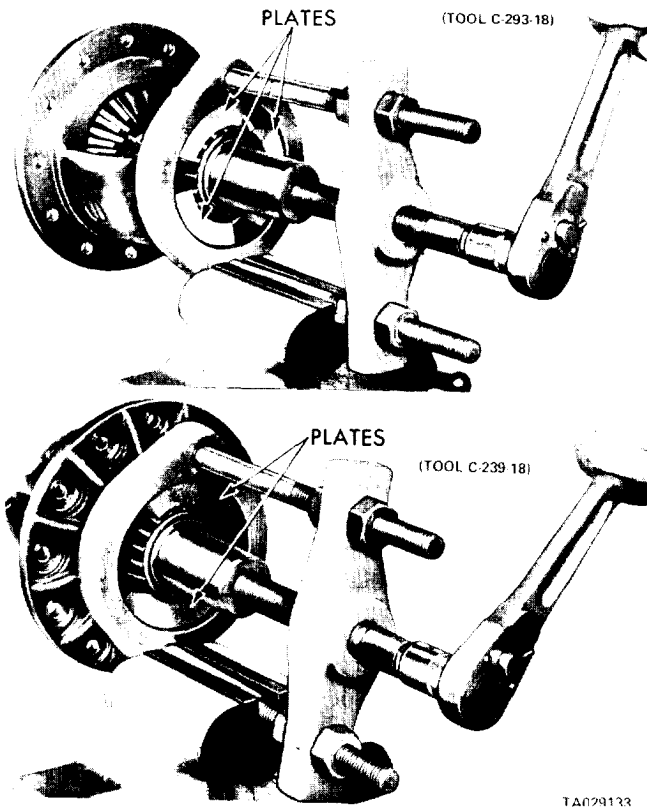

Figure 20-7. Removing Differential Bearings.
(20) Remove the differential pinion mate shaft, the differential pinion mates, and the thrust washers (one in back of each gear). If you found excessive drive gear run out, determine the cause.
(21) If you found no uneven surfaces or other causes preventing good drive gear alignment, check the runout of the drive gear mounting flange surface.
(22) Install the differential assembly (with drive gear removed) in the carrier housing. Attach a dial indicator and check the runout of the drive gear mounting face of the differential case flange.
(23) If the total indicator reading taken while rotating the differential case indicates excessive runout, replace the differential bearing cones or correct the condition by machining a light cut from the drive gear mounting surfaces on the case flange.
(24) Using a press (tool DD-914-P) with ring DD-914-9, C-293-18 plates, and a C-293-3 extension, remove the differential bearing cones (figure 20-7). Be sure that the bearing remover does not pull on the bearing cage.